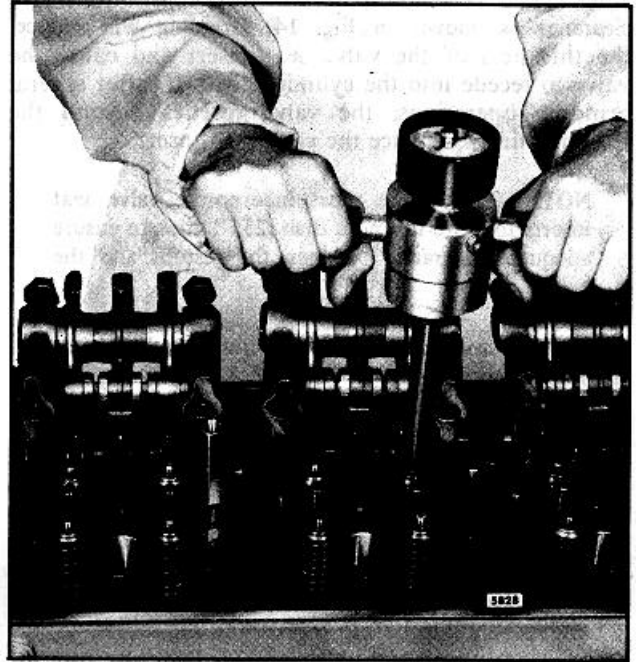

Fig. 16. Checking Pressure Required to Open the Exhaust Valve in Cylinder Head
11. With the exhaust valves installed in the cylinder head, use spring checking gage J 25076-01 and note the gage reading the moment the exhaust valve starts to open (Fig. 16). The minimum allowable pressure required to start to open the exhaust valve must not be less than 15 pounds (67 N).